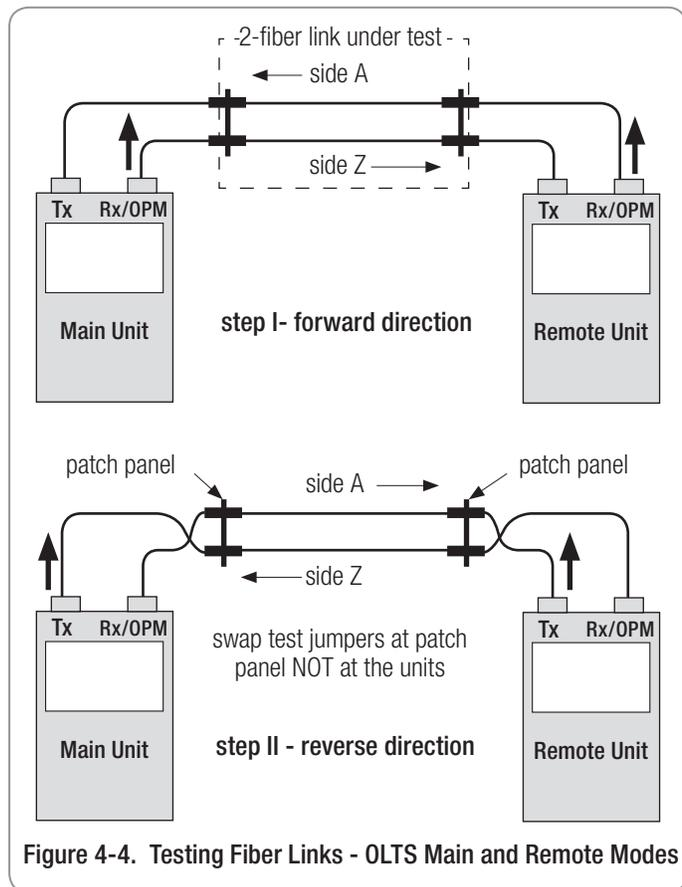

Figure 4-4. Testing Fiber Links - OLTS Main and Remote Modes
- 4 Connect each unit to the link under test (refer to Figure 4-4, step I).
- If prompted, swap jumpers as illustrated in Figure 4-4, step II. Wait for units to indicate "READY". Press CONTINUE (Main unit) to perform the second step of the 2 Way test.
- If prompted, swap jumpers as illustrated in Figure 4-4, step II.